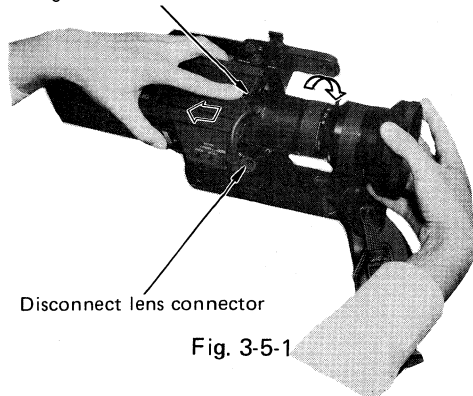

Fig. 3-5-1
- While depressing the lens release button backward, remove the lens by turning clockwise (approximately 60°). (Fig. 3-5-1)